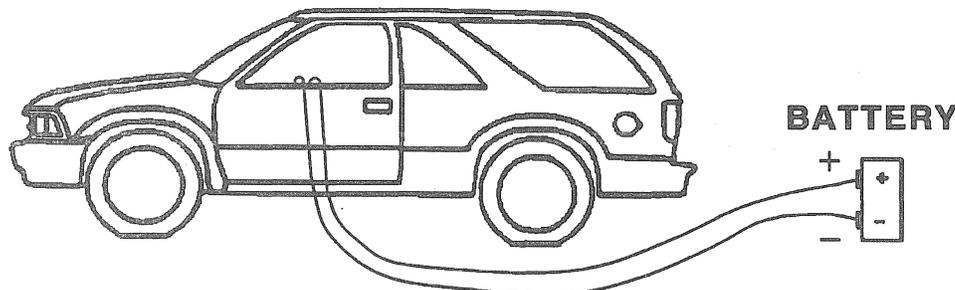

Figure 26—Separate Shorted Ends of Deployment Harness and Connect to Power Source
16. Separate the two ends of the deployment harness wires (Figure 26).
17. Connect the deployment harness wires to a power source to immediately deploy the inflator module. Recommended application: 12 volts minimum, 2 amps minimum. A vehicle battery is suggested (Figure 26).